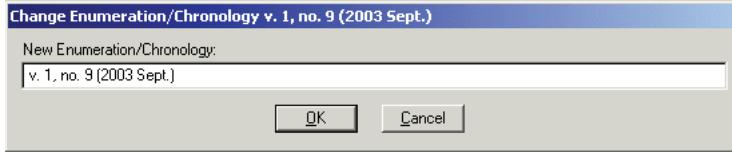

Figure 9-31. Change Enumeration/Chronology dialog box
2. Click the **Edit Issue** button. The **Change Enumeration/Chronology** dialog box opens (see Figure 9-31).